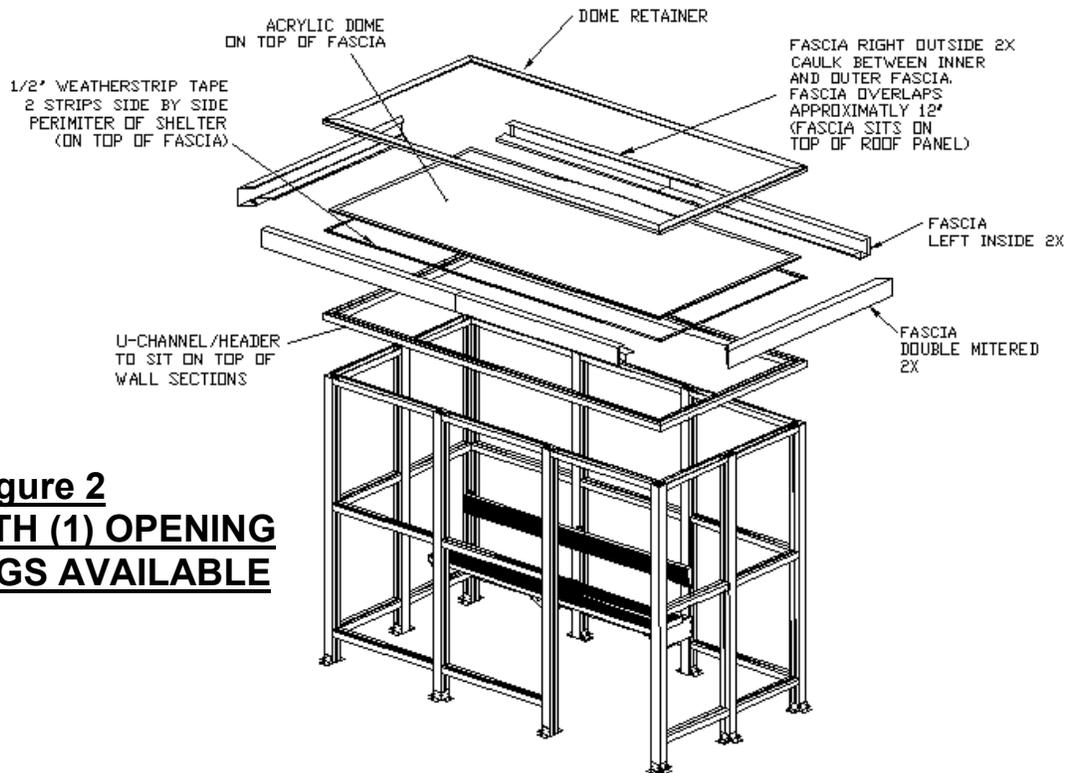

Figure 2
CAUTION: AS YOU ASSEMBLE THE SEQUENTIALLY NUMBERED PANELS BE SURE THE PANELS CREATE THE SHELTER ASSEMBLY PATTERN IN FIGURE 2 BELOW. OPENING(S) MAY DIFFER FROM MODEL SHOWN. SEE INSTALL LAYOUT ASSEMBLY FOR LOCATION(S)